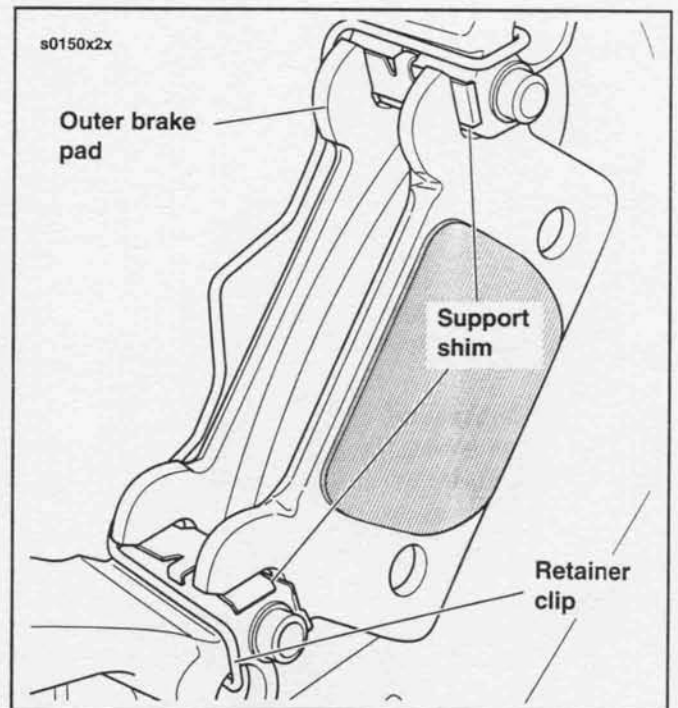

Figure 2-56. Retainer Clip Installation
2. Slide brake pad over pad shims (3) from saddlebag carrier side. From wheel side of brake disc, slide the other brake pad (4) over pad shims (3). Insert retainer clip (13) in holes in mounting bracket (1) and bring clip over the top of outer pad (4) as shown in Figure 2-56.